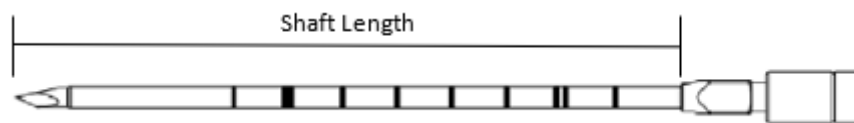

Figure 58: Introducer shaft length
2. Center of the cool zone, must be in the center of the tissue to be ablated (see Figure 58 for the distance of the cool zone from the tip).